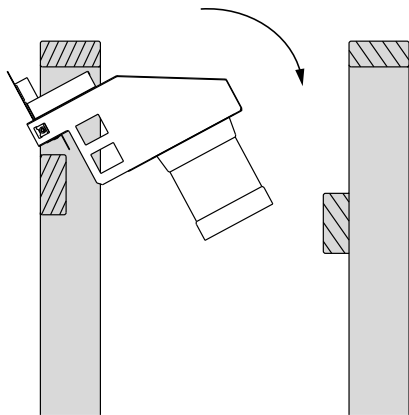

Figure 7 - Placing Register Assembly
1. Mount the register into the framed opening by tilting forward and inserting from the back while rotating into place with register resting on lower stud of framed opening (**Figures 7 and 8**).